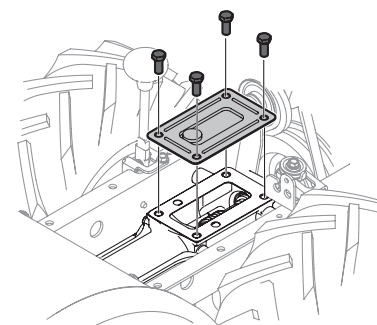

Figure 22
5. Remove the four hex screws (5/16-18 x .75) securing the transmission cover to the drive shaft and remove the cover. Locate the main drive shaft below the cover. See Figure 22.